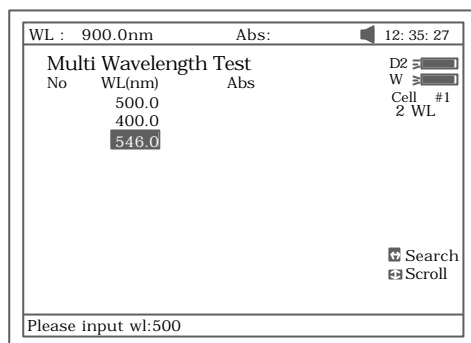

Fig 69
1. Press **【F1】** to setup a group of wavelengths for testing by pressing the numeric keypad followed by **【ENTER】**. (`) or () to modify the inputted data Fig. 69. Press **【ESC/STOP】** to finish setup and exit.